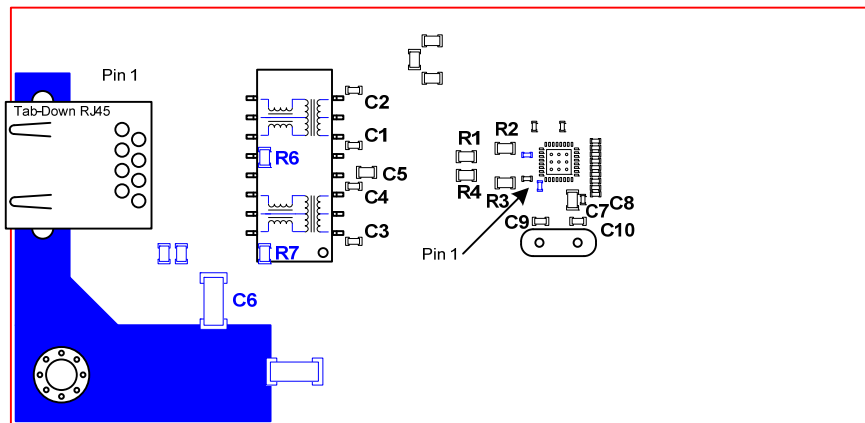

Figure No. 1
5. See Figure No. 1 for the placement of the termination resistors for the differential pairs for the LAN8710 Phy. These resistors are R1, R2, R3 & R4 in Figure No. 1.
6. Place the four optional, low-valued, common mode capacitors for each differential signal as close as possible to the magnetics. They should be placed as to create the smallest possible stub. These caps are C1, C2, C3 & C4 in Figure No. 1.
3. See Figure No. 1 below for the placement of the center tap termination components for the LAN8710 Phy. These resistors/capacitors are C5, R6, R7 & C6 in Figure No. 1.